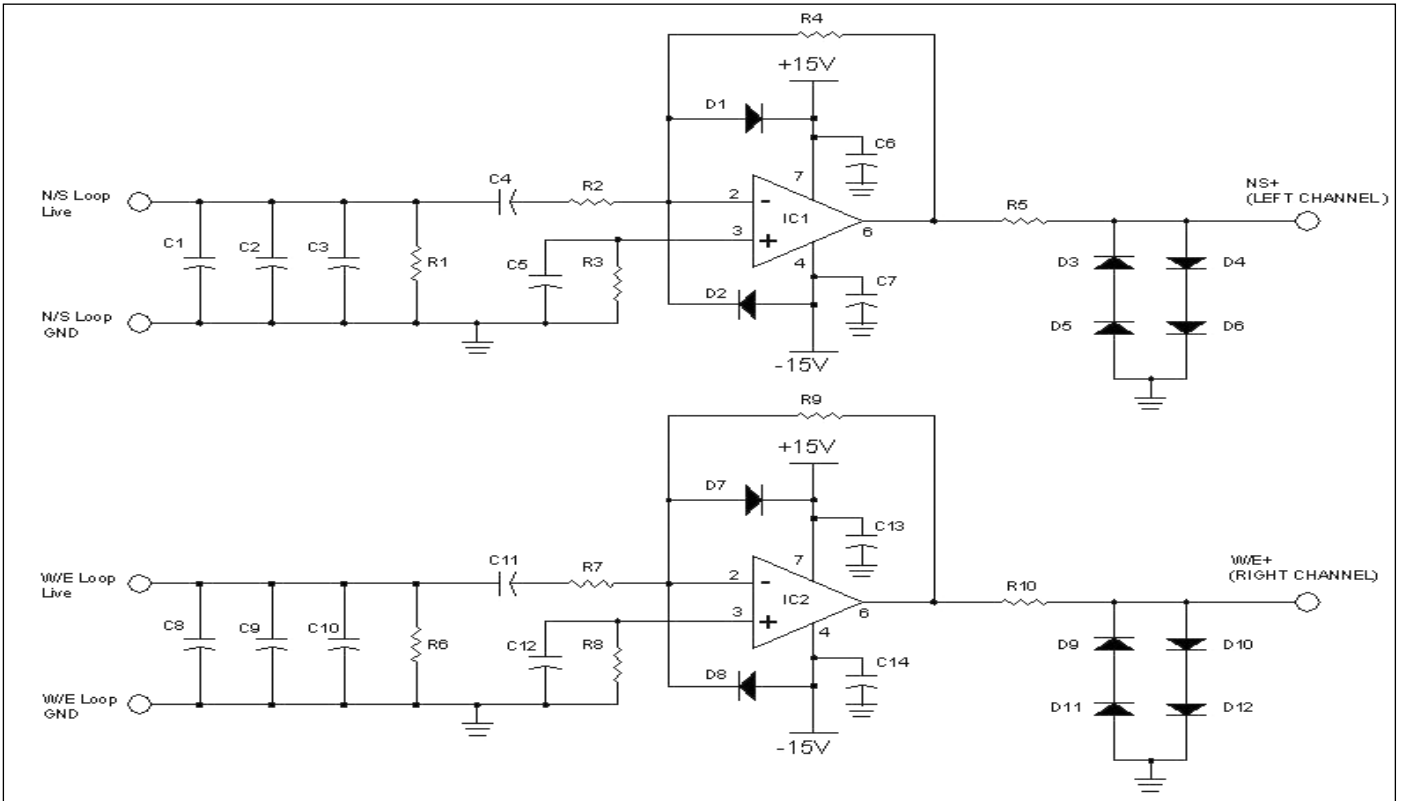
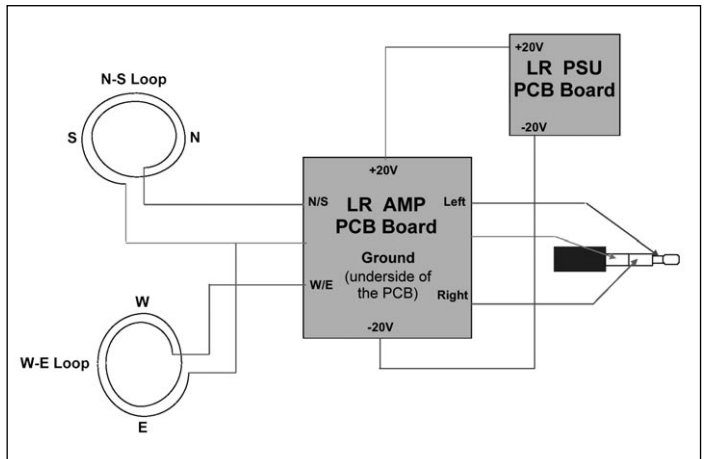

Figure 9
Figure 13 - The wiring of the LR and PSU modules to the PC and antenna.
If the whole system is to be sited indoors, in a loft for example, then the circuitry could be easily built on *Veroboard* using leaded components. The surface mount (SM) design described below is based on Daniel's circuit. To simplify the build of the system, I designed a surface mount version of Daniel's LR design (figure 9 and 10). The top view, with component identities, is shown in figure 11. Figure 13 shows the system connections to the PC via a stereo 3.5 mm plug. Connection between the PC/PSU and the antenna-mounted LR PCB was made via four individually screened audio leads.